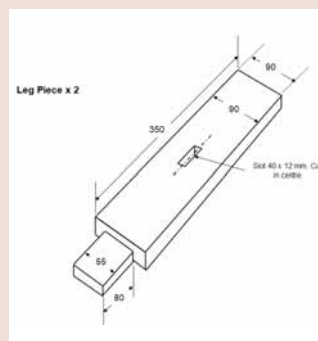
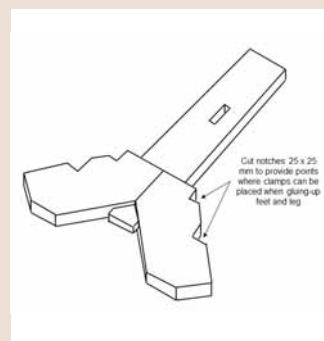

Fig. 3
Fig. 4
Step 4: Here we start preparing the legs 'B'. Make two pieces as shown in Fig.3. The work to be done here is to cut the tenon and the slot in the middle of the leg. Again, take care in measuring and marking out. The centre slot can be initially drilled out using a 12mm Forstner or flat drill bit. This is where we join the feet pieces to the leg piece, (Fig. 4.).